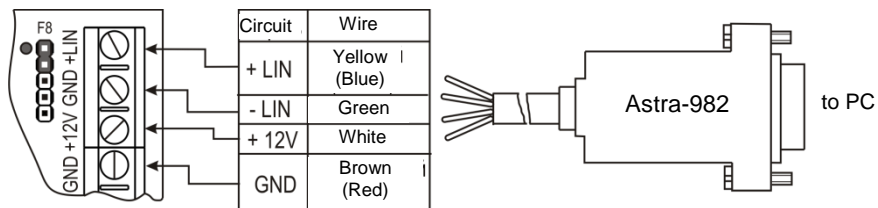

Figure 5
- 4) Connect Astra-982 or Astra-983 interface adapter to control panel terminals in accordance with Figure 5, 6 or 7;